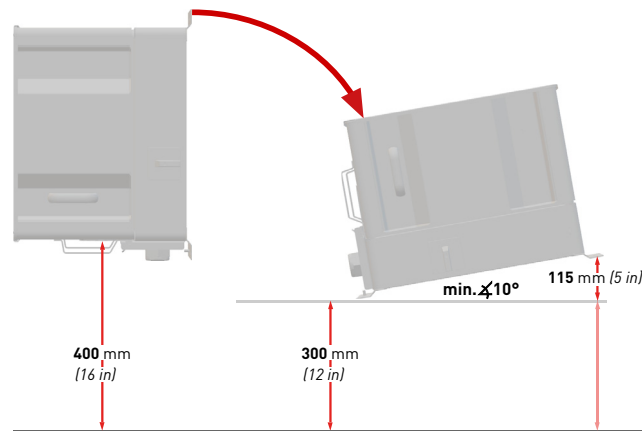

Fig. 5: Vertical and horizontal installation (10° outdoors)
**a)** Maintain a distance of at least 300 mm from the floor in the connection area (see Figure 5).